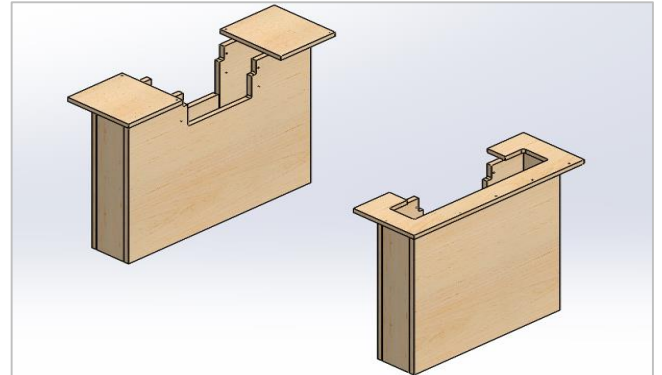

Figure 4
1. Set first two bases roughly in place. (Figure 4)